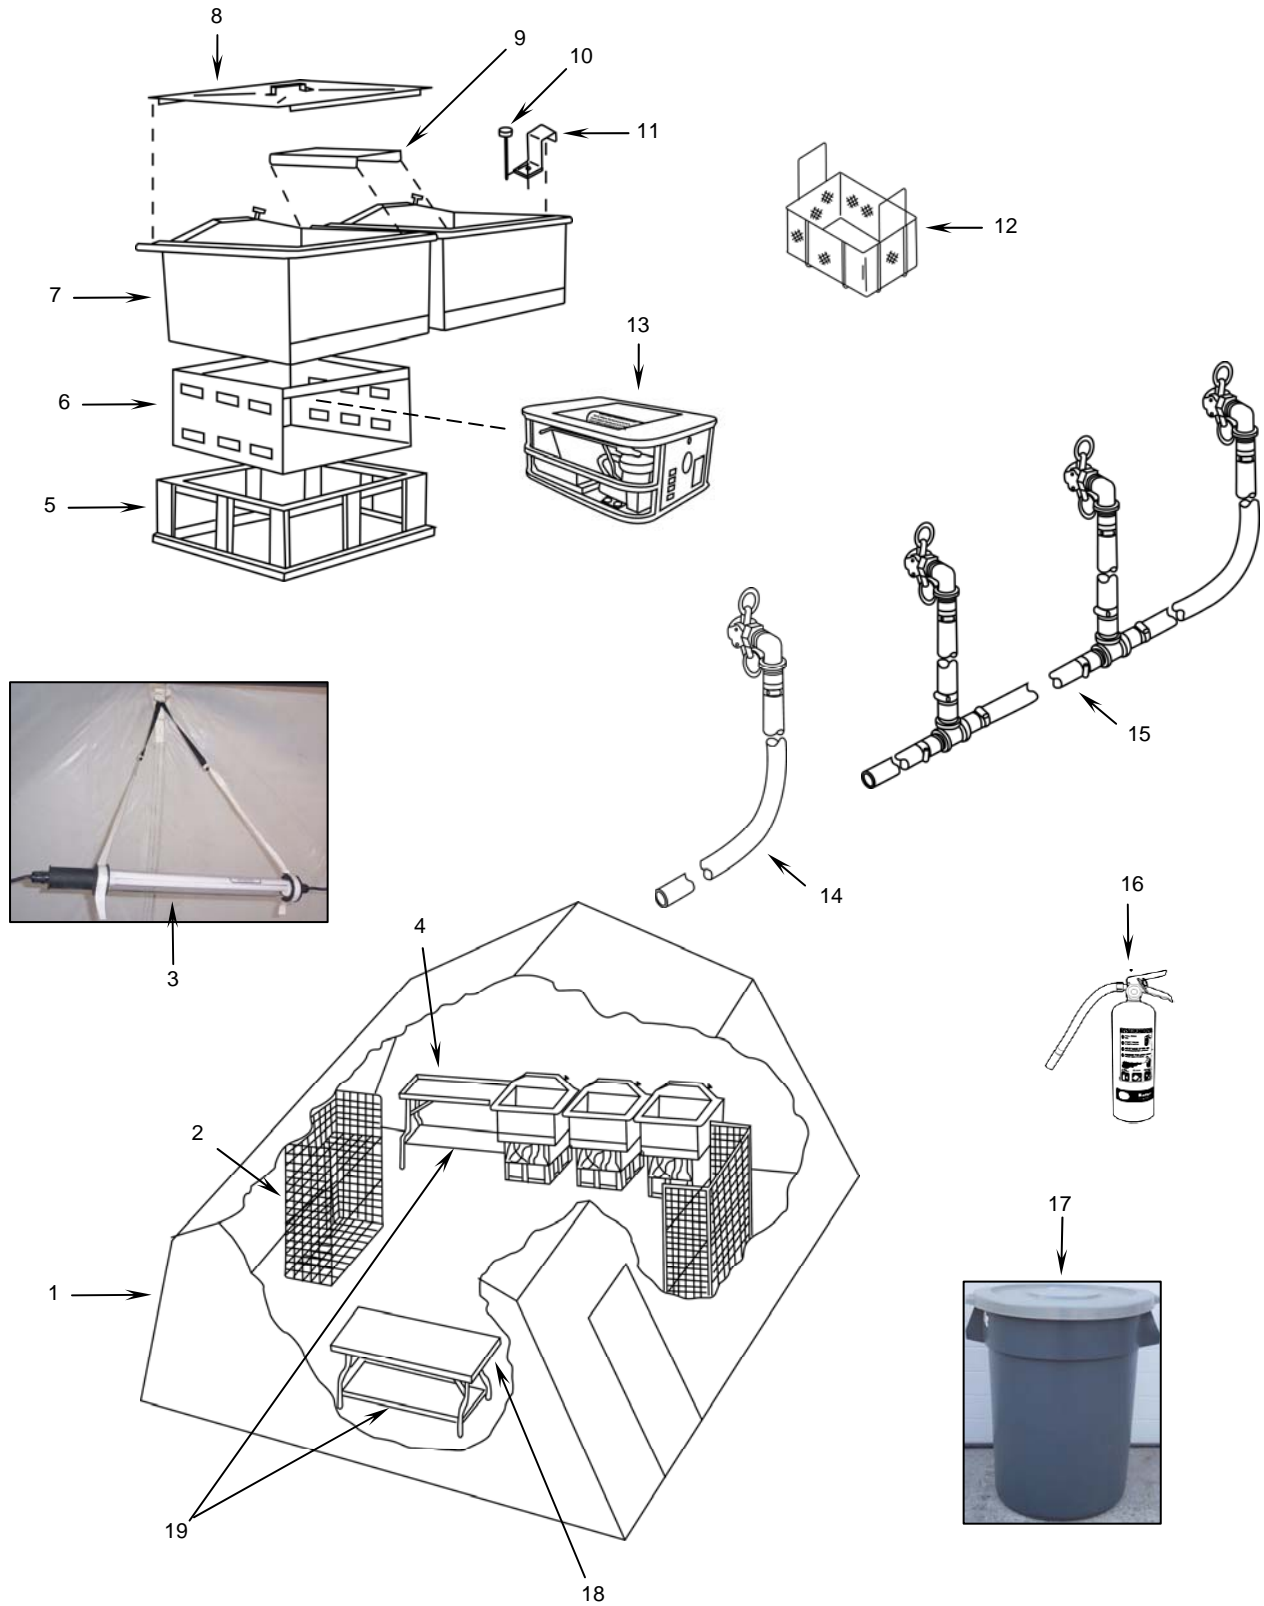

Figure 1. Major Components of Food Sanitation Center FSC-90.
- Tent (**Figure 1, Item 1**). Old style Extendable Modular, 16 x 20. Contains all food sanitation equipment and protects personnel from weather.
- Storage Rack Assembly (**Figure 1, Item 2**). Two storage rack assembly sets (each set formed by stacking three rack assemblies).
- Electric Light (**Figure 1, Item 3**). Two fluorescent electric light assemblies with support straps used for night operations.
- Drain Table (**Figure 1, Item 4**). One drain table hooked to end of sink assembly: inclined for draining water.
- Base Rack (**Figure 1, Item 5**). Three base racks, one to support each of the three burner racks and sinks.
- Burner Rack (**Figure 1, Item 6**). Three burner racks, one to hold each of the three modern burner units (MBUs).
- Sink Assembly (**Figure 1, Item 7**). Three sink assemblies, one each to wash, rinse, and sterilize pots, pans, and utensils.
- Sink Cover (**Figure 1, Item 8**). Three covers, one for each sink.
- Adapter (**Figure 1, Item 9**). Two adapters to link the three sinks together.
- Thermometer (**Figure 1, Item 10**) and thermometer bracket (**Figure 1, Item 11**). Three, one for each sink to measure water temperature.
- Sink immersion rack (**Figure 1, Item 12**). Two immersion racks for immersing small, loose items in the water-filled sinks.
- Modern Burner Unit (MBU) (**Figure 1, Item 13**). Three JP-8 fuel-fired burner units used to heat water in sink assemblies.
- Single sink drain hose assembly (**Figure 1, Item 14**). Used when a single sink is deployed.
- Three sink drain hose assembly (**Figure 1, Item 15**). Used when all three sinks are deployed.
- Fire extinguisher (**Figure 1, Item 16**). One placed just inside open door.
- Waste receptacles (**Figure 1, Item 17**). Two, with lids, for holding food waste.
- Work Table (**Figure 1, Item 18**). One used as work area.
- Shelf (**Figure 1, Item 19**). One for use with either the work table or the drain table.